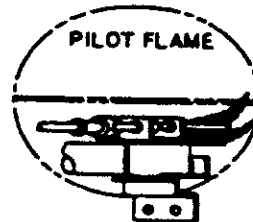

Figure 9
B. Pilot Flame - The pilot flame should engulf the tip of the thermocouple as illustrated in Figure 9. Correct as needed.